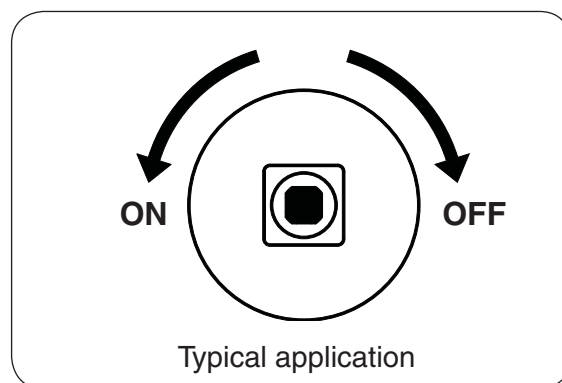

Fig. 11-2
4. **Once the match is burning and in position**, slowly turn the key valve counter-clockwise toward the **ON** position until it no longer rotates (see Fig. 11-2). Your burner should light.
To extinguish your gas burner, turn the key valve clockwise toward the **OFF** position until it no longer rotates (see Fig. 11-2). Be sure the key valve is turned fully off to avoid any gas leakage.